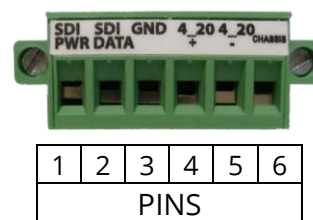

Figure 2-2: SDI-12 Connections
- 12) Attach the desiccant hose to the barbed hose fitting on the Bubbler's air intake (see Figure 2-2).